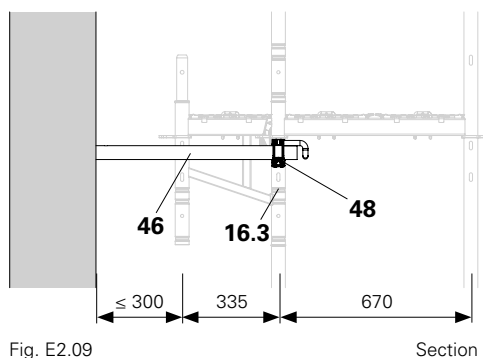

Fig. E2.09
Attach Wall Tie UWT (46) to the inner tube (16.3) of the Easy Frame EVF with a standard coupler (48). The tube end without a hook is positioned obtusely against the wall. (Fig. E2.09 + E2.10)